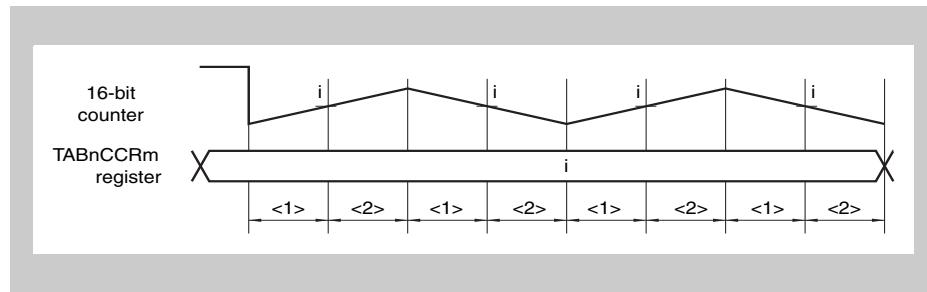
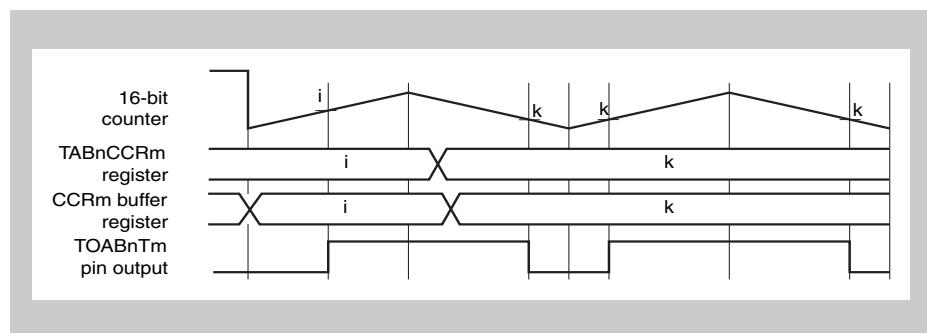
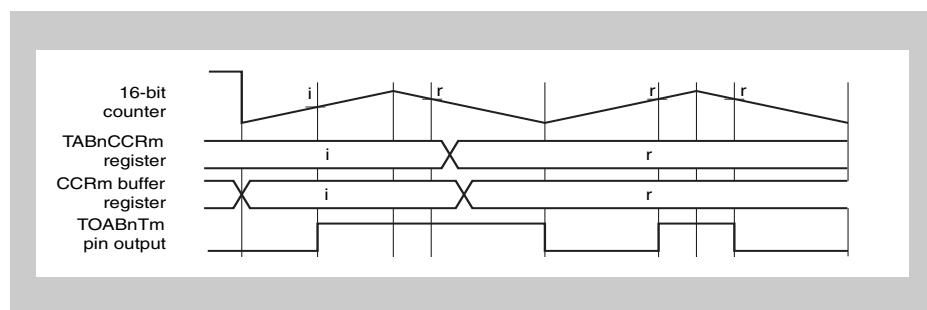

Figure 22-32 Basic Operation of 16-Bit Counter and TABnCCRm Register
Figure 22-33 Example a) of Rewriting TABnCCR1 to TABnCCR3 Registers (Rewriting Before Match Occurs)
Figure 22-34 Example b) of Rewriting TABnCCR1 to TABnCCR3 Registers (Rewriting Before Match Occurs)
*Figure 22-33 to Figure 22-34 show the timing of rewriting before the value of the 16-bit counter matches the value of the TABnCCRm register (<1> in Figure 22-32), and Figure 22-35 shows the timing of rewriting after the value of the 16-bit counter matches the value of the TABnCCRm register (<2> in Figure 22-32).*